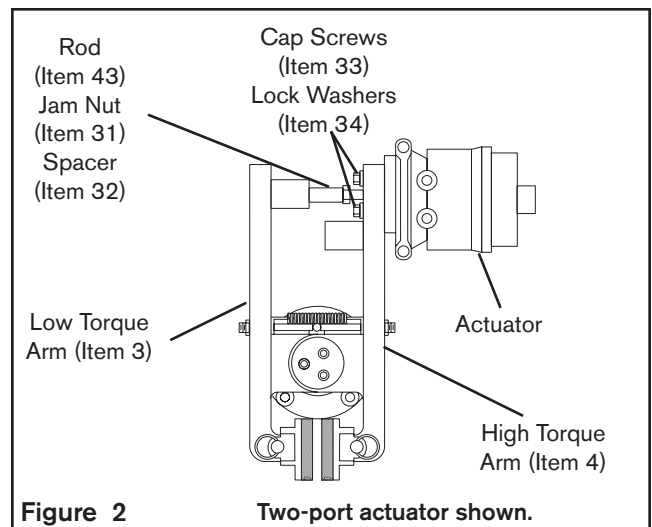

Figure 2
1. Insert the Rod (Item 43), Jam Nut (Item 31), and Spacer (Item 32) into the Actuator (See Figure 2).
NOTE: Mount this assembly on either the Low Torque Arm (Item 3) or the High Torque Arm (Item 4) (See Figure 2).
2. Install the Cap Screws (Item 33) and the Lock Washers (Item 34) (See Figure 2).